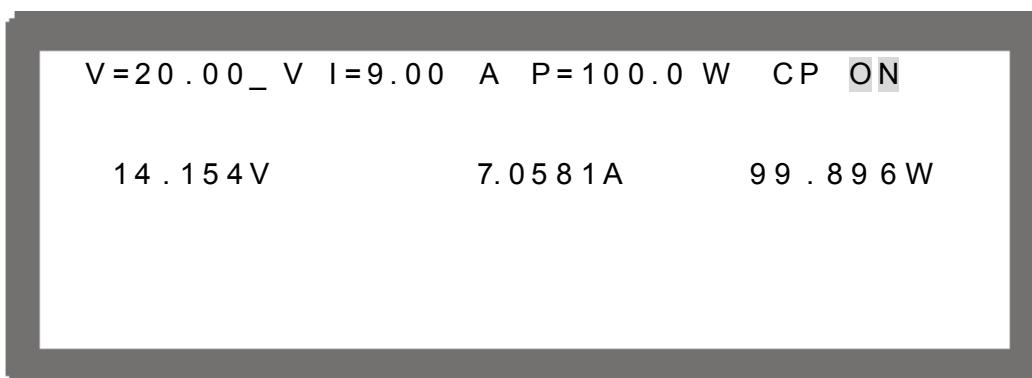

Figure 4-26
1. Press “” to set the output voltage. The cursor after the V value on the MAIN PAGE will blink as shown in Figure 4-26.